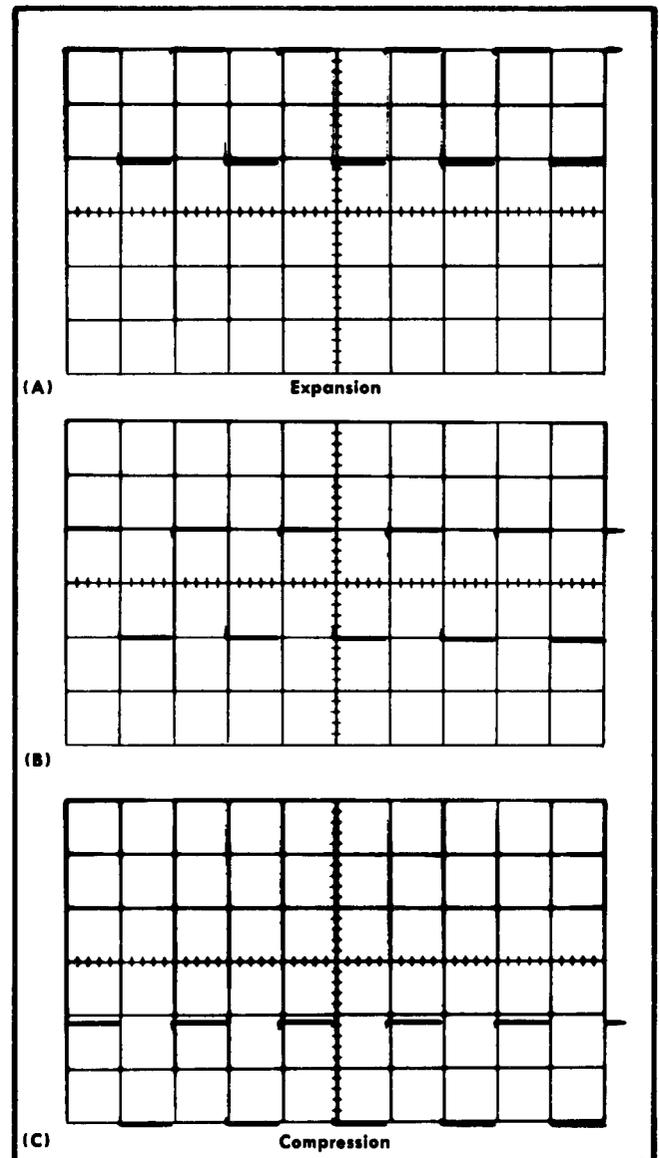

Fig. 5-4. Typical CRT display showing acceptable compression and expansion. (A) Expansion, (B) correct deflection at center of graticule, (C) compression.
- CHECK-Compression or expansion 0.15 divisions or less (see Fig. 5-4).
- CHECK-Compression or expansion 0.15 division or less (see Fig. 5-4).
n. CHECK-Compression or expansion 0.15 division or less (see Fig. 5-4).